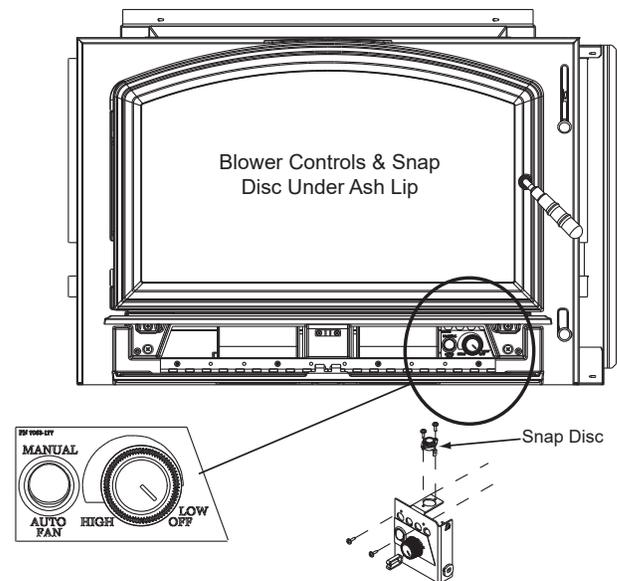

Figure 23.2 - Snap Disc Location
3. Locate the snap disc bracket assembly behind the blower controls on the right side under the ash lip (Figure 23.2).